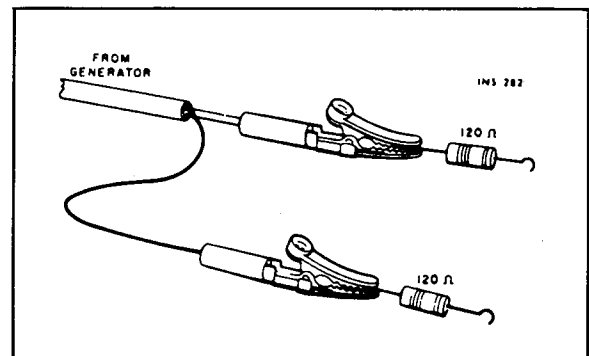
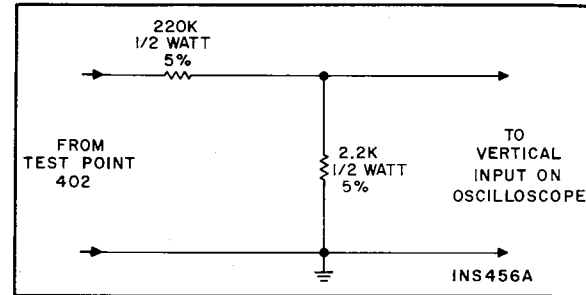

Figure 7. Connections To Provide 300-ohm Generator Output Impedance. Matching Resistors Reduce Generator Voltage By Half At Antenna Terminals.
Figure 8. Voltage Divider Probe.
- (2) Connect an FM generator to the FM ANTenna terminals. Use a 120-ohm composition resistor in series with each lead from the generator (see Figure 7).
- (3) Connect a scope and an AC VTVM to either Left or Right RCDR OUT jack.
- (4) Set FM generator frequency and TUNING dial pointer to 90 MHz. Modulate generator with 400 Hz, ± 75 kHz deviation. Set generator level as low as possible.
- (5) Align (oscillator coil) L504 first, then (mixer coil) L503 and (RF coil) L502 for maximum reading on AC VTVM and tuning meter, and maximum waveform amplitude and symmetry.
- (6) Set generator frequency and TUNING dial pointer to 106 MHz.
- (7) Align (oscillator trimmer) C512 first, then (mixer trimmer) C511 and (RF trimmer) C503 for maximum reading on AC VTVM and tuning meter, and maximum waveform amplitude and symmetry.
- (8) Repeat alignment several times until accurate dial calibration and maximum gain are obtained. Keep the generator output as low as possible during all adjustments.
(1) Connect an FM generator to the FM ANTenna terminals. Use a 120-ohm composition resistor in series with each lead from the generator (see Figure 7).
(2) Set generator frequency to same frequency as receiver. Set generator RF output level to full output (approximately 100,000 uV) with audio modulation off.
(3) Adjust generator frequency for peak tuning meter reading.
(4) Adjust FM METER ADJ. pot. R328 (on AM/FM IF, MPX board) for tuning meter reading of 4.5.
(1) Connect RF output of multiplex generator to the FM ANTenna terminals. Use a 120-ohm composition resistor in series with each lead from RF output (see Figure 7). Set MPX generator for external modulation with 19 kHz pilot carrier, ± 7.5 kHz deviation (10% pilot, no audio). Tune receiver to RF frequency of MPX generator.
(2) Connect DC VTVM to Test Point 403 (pin 4G on AM/FM IF, MPX board).
(3) Adjust cores of Z401 and Z402 (on AM/FM IF, MPX board) for maximum reading on DC VTVM (2.5 to 4 VDC).
(4) Connect output of audio generator, set for 1 kHz, to the external modulation input of MPX generator and to external sync input of an oscilloscope. Adjust audio generator level for composite signal ± 75 kHz deviation (10% pilot, 90% audio). Modulate right channel only.
(5) Connect AC VTVM to Left RCDR OUT jack. Connect scope through voltage divider probe (see Figure 8) to Test Point 402 (pin 4K on AM/FM IF, MPX board).